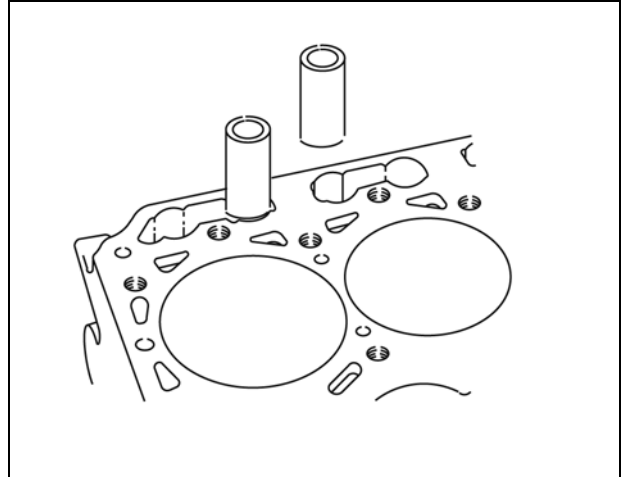

Figure 3
6. Remove valve lifters (Figure 3).